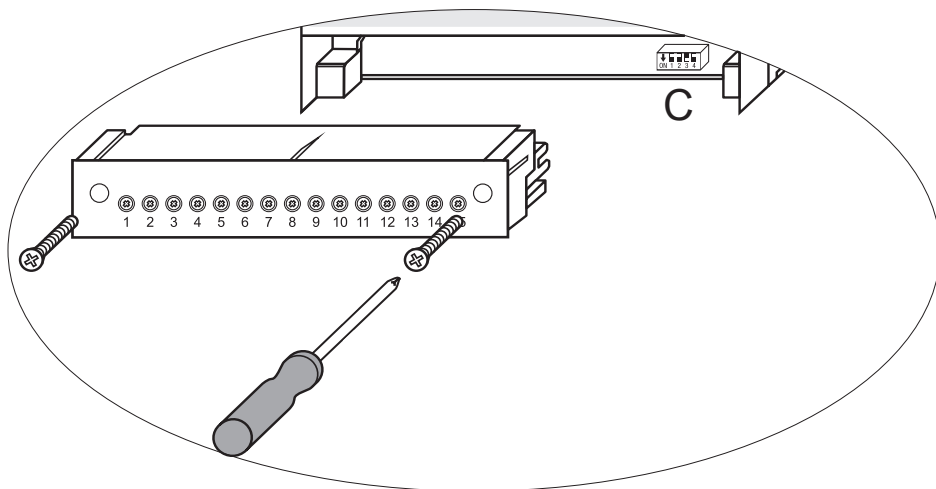

图12.
拨码开关 C: S1 = OFF, S2 = OFF, S3 = ON, S4 = OFF	见图12
- 下接线端子排：拧下左右固定螺丝。图12.